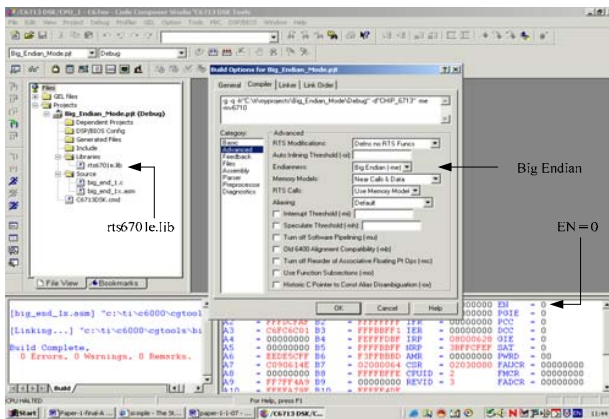

Fig. 3 A screen-shot of the CCS for big endian mode
2. As a result of step 1, **EN** in the Code Composer Studio must indicate **0**. This is read only register and indicates the mode of the DSK board. When EN=0, the DSK board operates in the big endian mode. The value of EN can be displayed in the CCS by **Clicking** View → **Clicking** Register → **Clicking** Core Registers as shown in Fig. 3.
3. The endianness of the TMS320C6713 DSK board needs to be set to Big Endian as shown in Fig.3. This can be done by **Clicking** Project → **Click** Build Options → **Highlight** Advanced and make sure the **Endianness** is set to **Big Endian** and press **OK**.